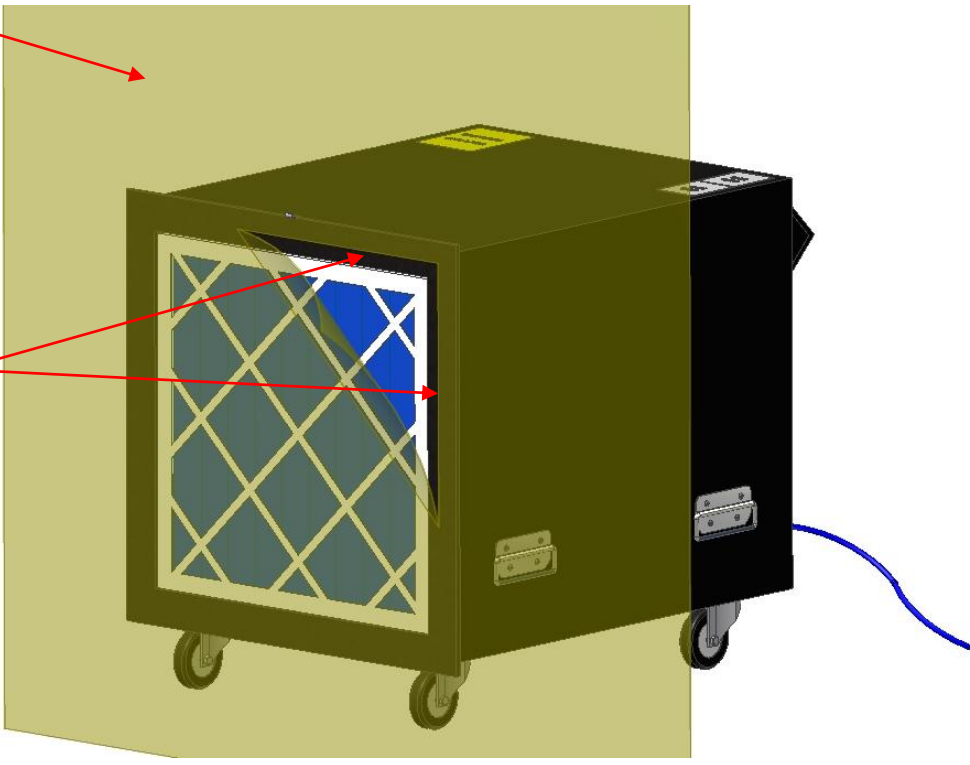

Figure 2.2 – Hole Cut to NPU Flange Size
Example depicted in figure 2.1 – 2.3 applies to fixing and sealing a Negative Pressure Unit to a polythene enclosure. The Filter End of the NPU should be outside of the enclosure, with the inlet flange (Pre-filter inlet face) being taped to the polythene with cloth tape (refer to figures 2.2 & 2.3 to follow).
- Mark and cut a hole in the enclosure around the Pre-filter to accommodate the unit (figure2.2).